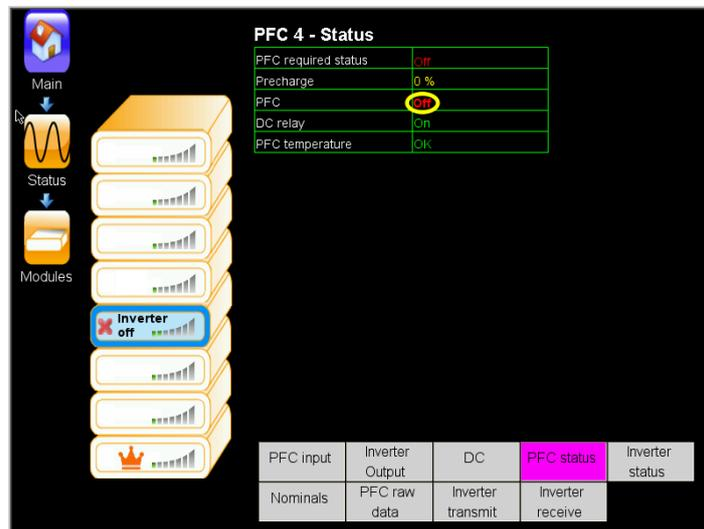
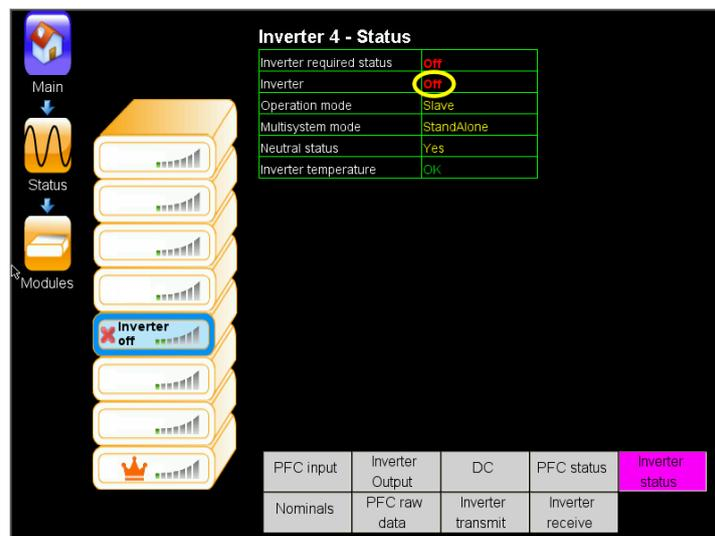

Figure 59: Status > Modules > PFC status for module 4
Figure 60: Status > Modules > Inverter status for module 4
7. To verify that the module has been shut down, navigate to the module status screen ("Main screen > Status > Modules"), press on the icon of the module you just shut down, and verify that the status is "OFF" for PFC (Figure 59) and for the inverter (Figure 60).